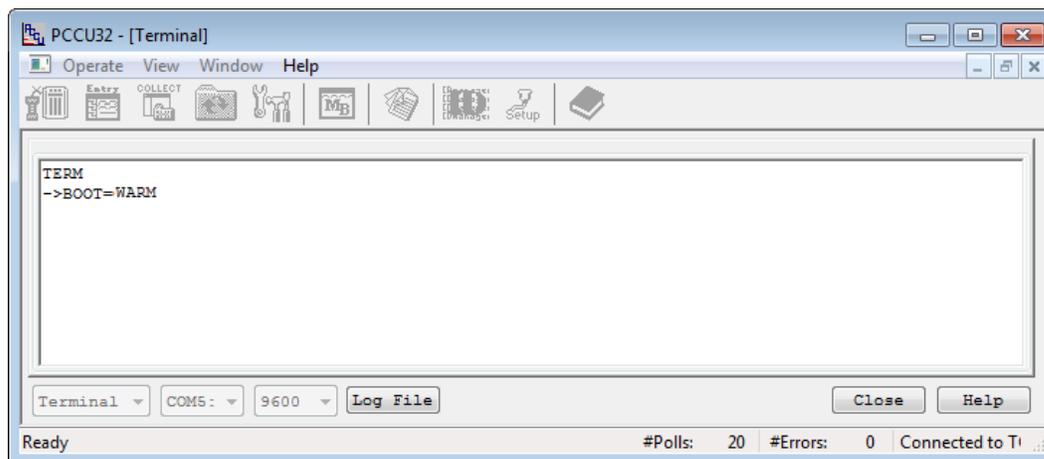

Figure 72: Terminal mode warm restart
3. At the terminal prompt (->), type the command **BOOT=WARM** (Figure 72).